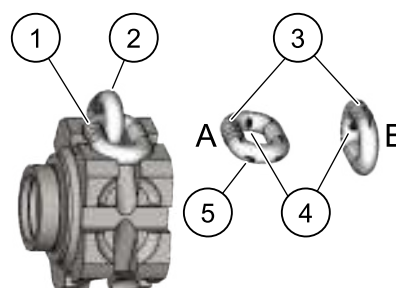

Figure 7. Chain Wear Areas
3. Slack the portion of the chain that normally passes over the liftwheel (sprocket). Examine the chain links for wear (see Fig. 7). If the wire diameter anywhere on the link measures less than 90% of the nominal wire diameter, replace the chain.